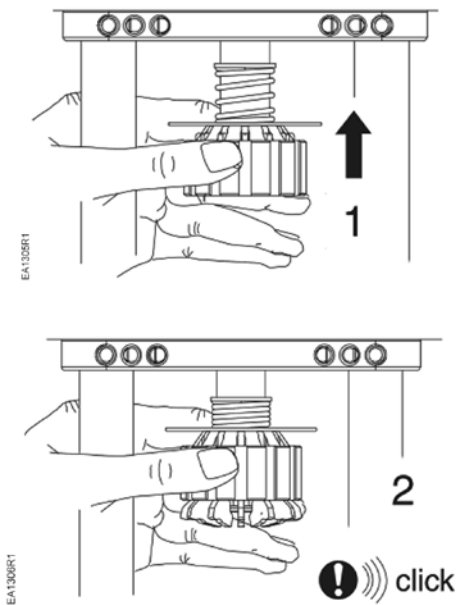

Figure 4.
2. Push up on the actuator's valve stem connection until it locks into place, opening it to accept the valve stem. See Figure 4.